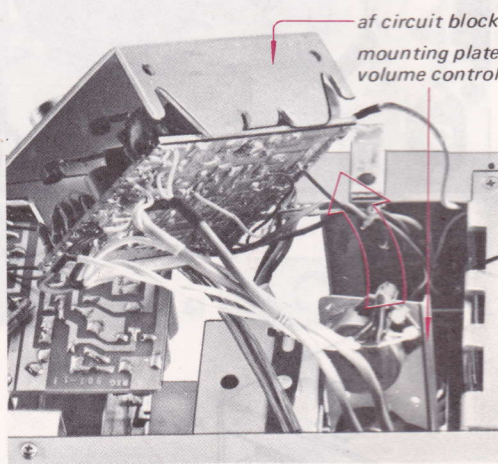

Fig. 2-29
3. Remove the af circuit board as shown in Fig. 2-29.